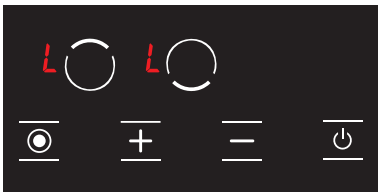

Figure 17
1. The **L** icon is displayed on all displays when the stove is on and the child lock is active. (see Fig. 17) The **L** and **H** icons are displayed alternatively if any hob is hot. You may turn the stove on or off with the ● key only.